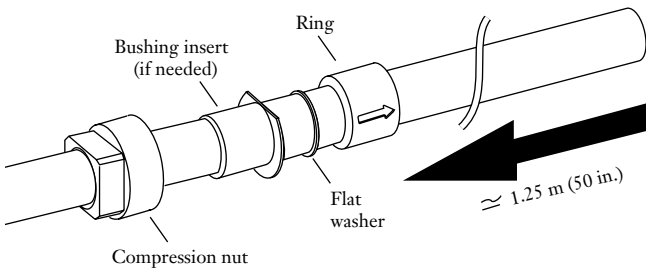

Figure 5
4.12 Slide the compression nut, bushing insert (if needed), flat washer, and the ring portion of an aramid yarn crimp over the end of the cable and slide them 1.25 m (50 in.) down the cable (Figure 5). Note that the arrow on the ring must point towards the end of the cable.